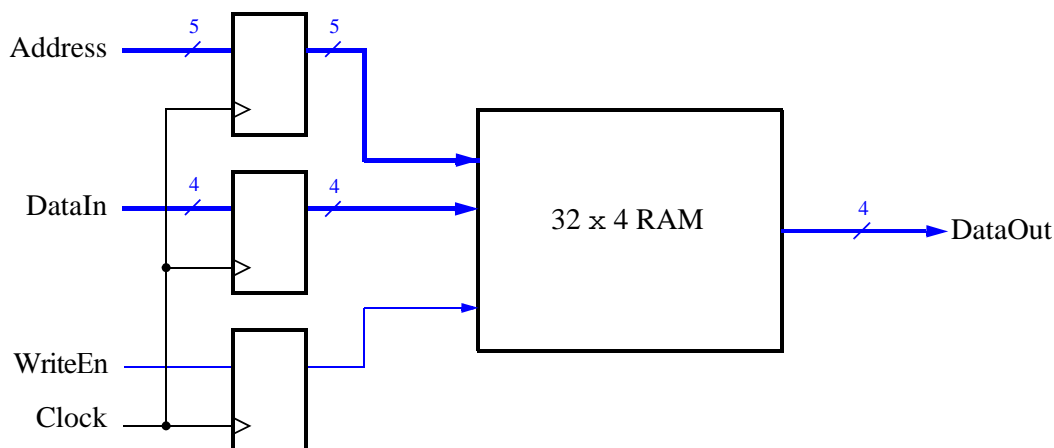

Figure 1: Schematic of the  $32 \times 4$  embedded memory module.
The memory module we would like to create is shown in Figure 1. It consists of a memory block, address register, data register and a control register. You can see that the address and input data are stored in a register as well as the Write Enable control signal. Using the registers means that the *DataOut* value will be stable for one clock cycle and allows the inputs to be changed after the rising clock edge in preparation for the next clock cycle (the rising clock edges are marked with gray vertical lines in the timing diagrams below). It is a small memory block so that we can easily interact with it using the available switches and displays on the the DE2 board.
9. Examine the newly created Verilog file. Observe that it declares a module with the required ports as shown in Figure 1, although the names of inputs and outputs may be slightly different. You can now instantiate the module into any design.